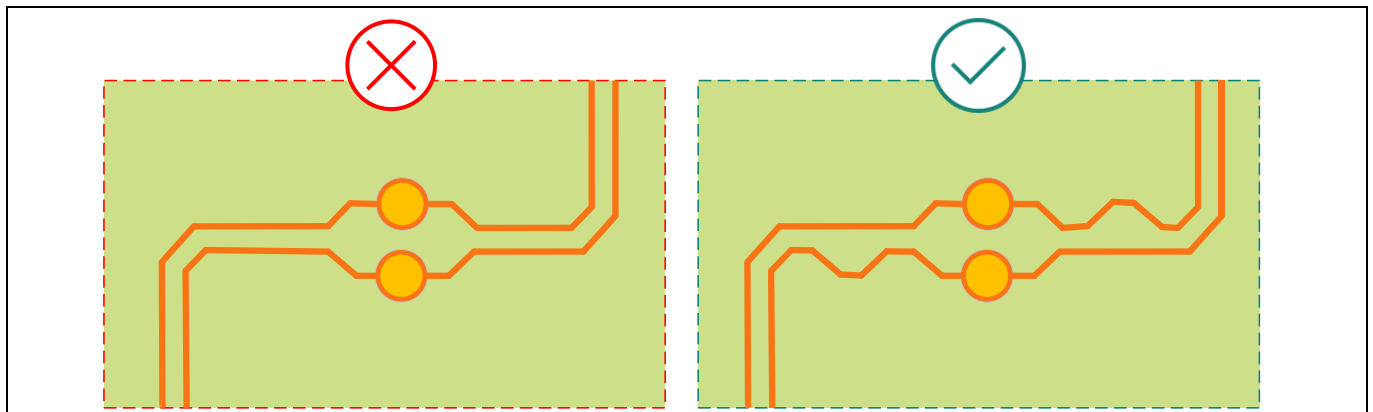

Figure 12 Compensate length differences in each segment of the trace
- Route both traces on the same layer to ensure equal signal speeds and a consistent dielectric constant. If a differential pair signal changes from one layer to another using vias and has a bend, each segment of the pair needs to be matched individually. In Figure 12, the vias separate the differential pair into two segments